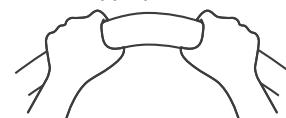

Fig. 15 —Bend Tubing
1. Carefully bend the tubing in the middle according to Fig. 15.